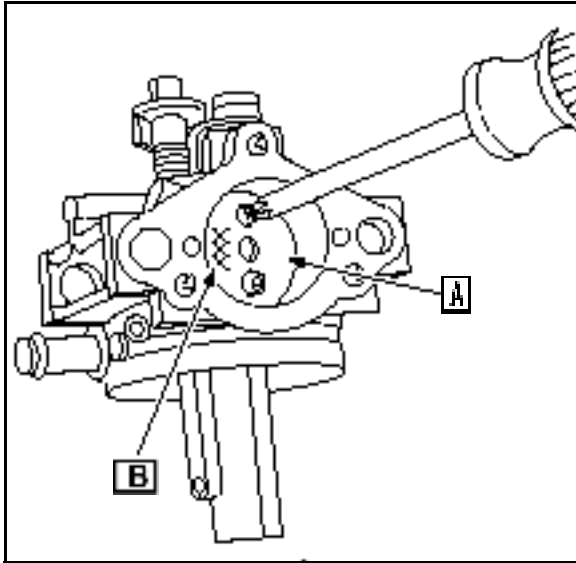

Fig. 107
- Lay the throttle plate (A) on the shaft with the stamped numbers ([B] Fig. 107) to the left. Install two screws with lock washers.